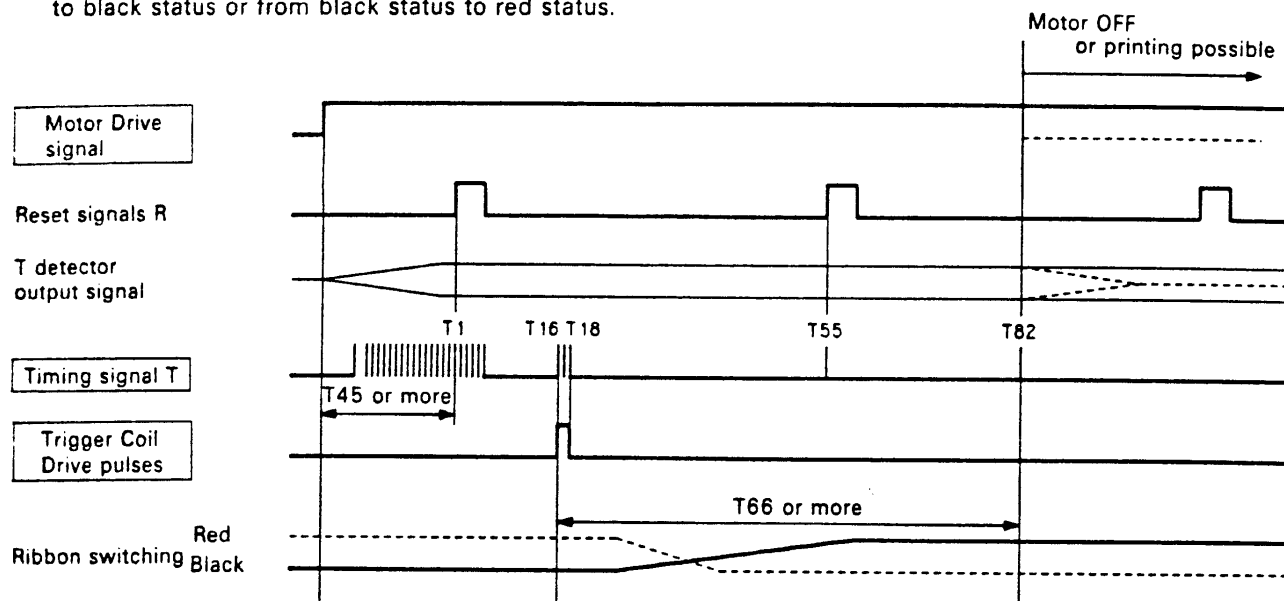

Fig. 1-33. Timing Chart of Ribbon Red/Black Switching
3. Ribbon Red/Black Switching (see Fig. 1-33)
- ① Identical to Step ① of "1. Initialization."
- ② By applying Drive pulses T16 to T18 to the trigger coil, the ribbon will either be switched from red status to black status or from black status to red status.
- ③ After T82, it is possible to either stop the motor or continue printing.